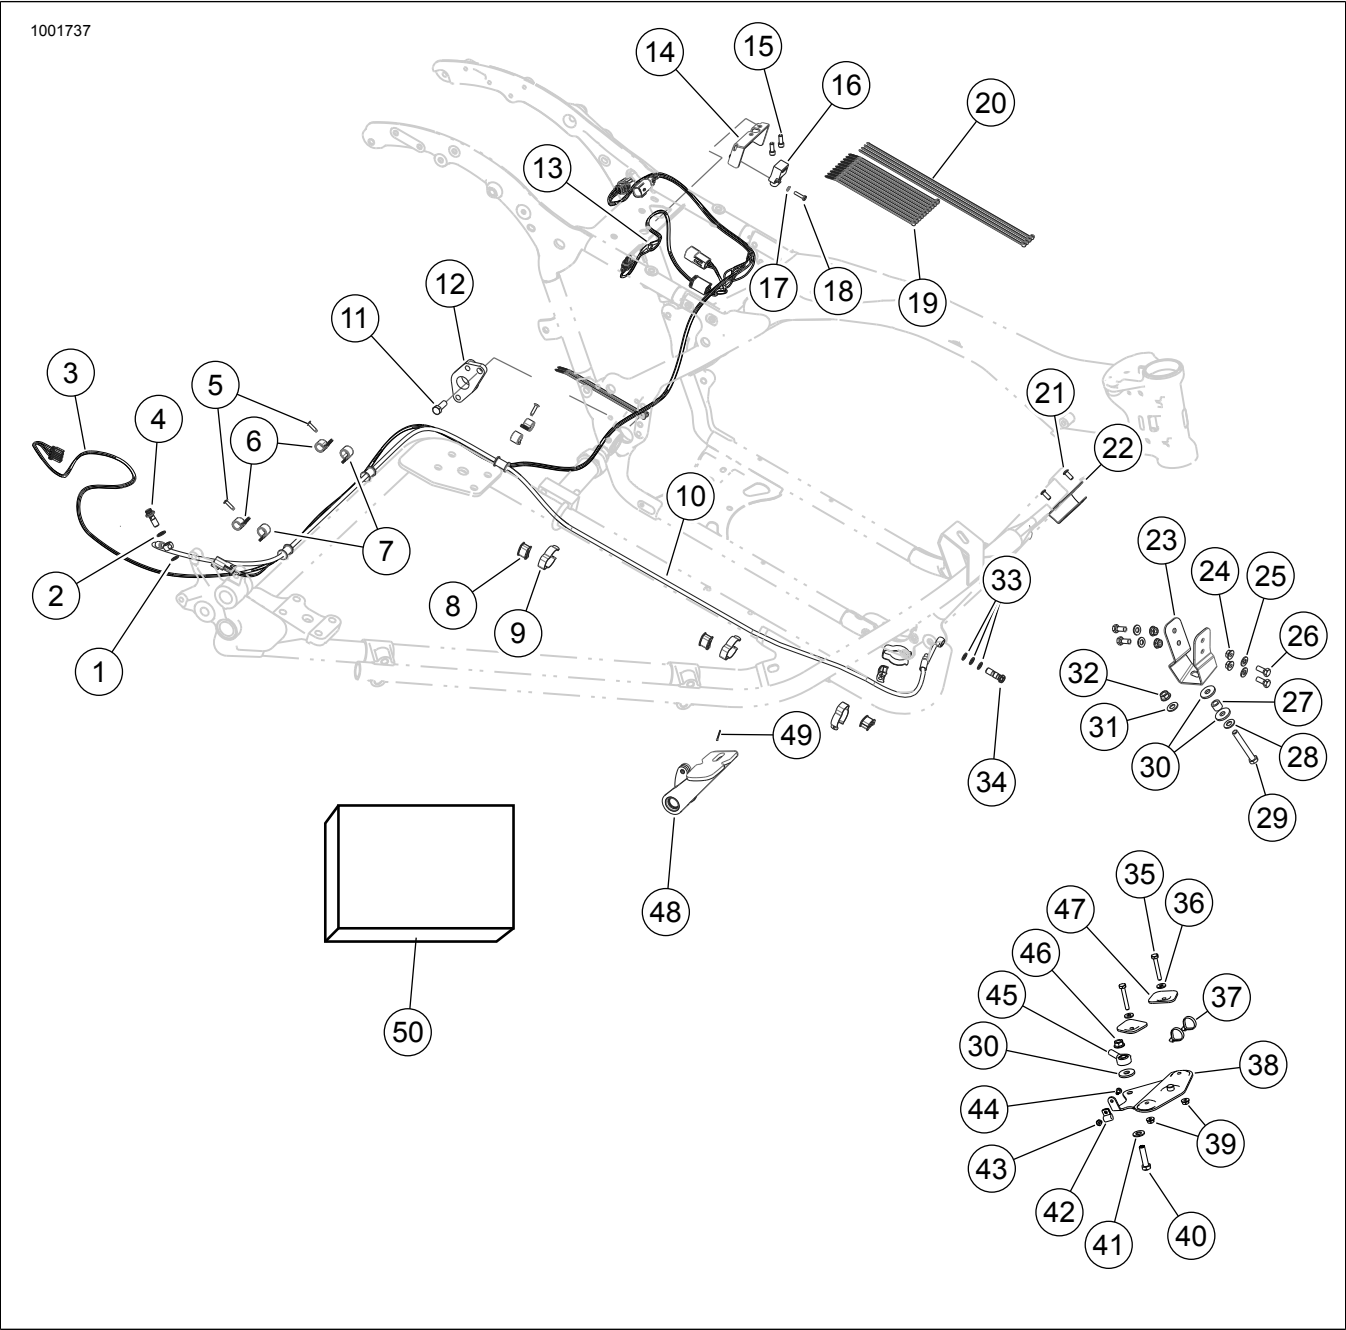

Figure 9. Service Parts: Sidecar Connection Kit
1. See Figure 9. Install the bank angle sensor bracket and sensor.
- a. Install BAS (16) to bracket (14) with screw (18) and split lockwasher (17).
- c. Remove seat spring lower screws (2).
- d. Apply LOCTITE 243 MEDIUM STRENGTH THREADLOCKER AND SEALANT (BLUE) to **new** 1/4-20 x 0.625 in shcs (15).
- e. Install BAS and bracket with **new** 1/4-20 x 0.625 in shcs (15). Tighten to 4.1–6.8 N·m (36–60 **in-lbs**).
2. Install BCM harness (13) terminal into BCM connector.